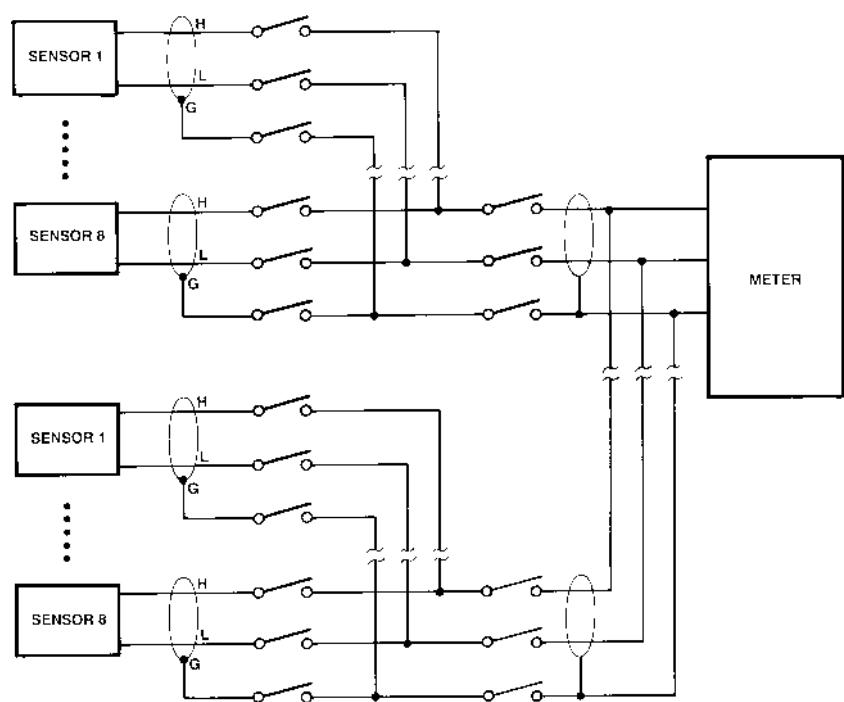
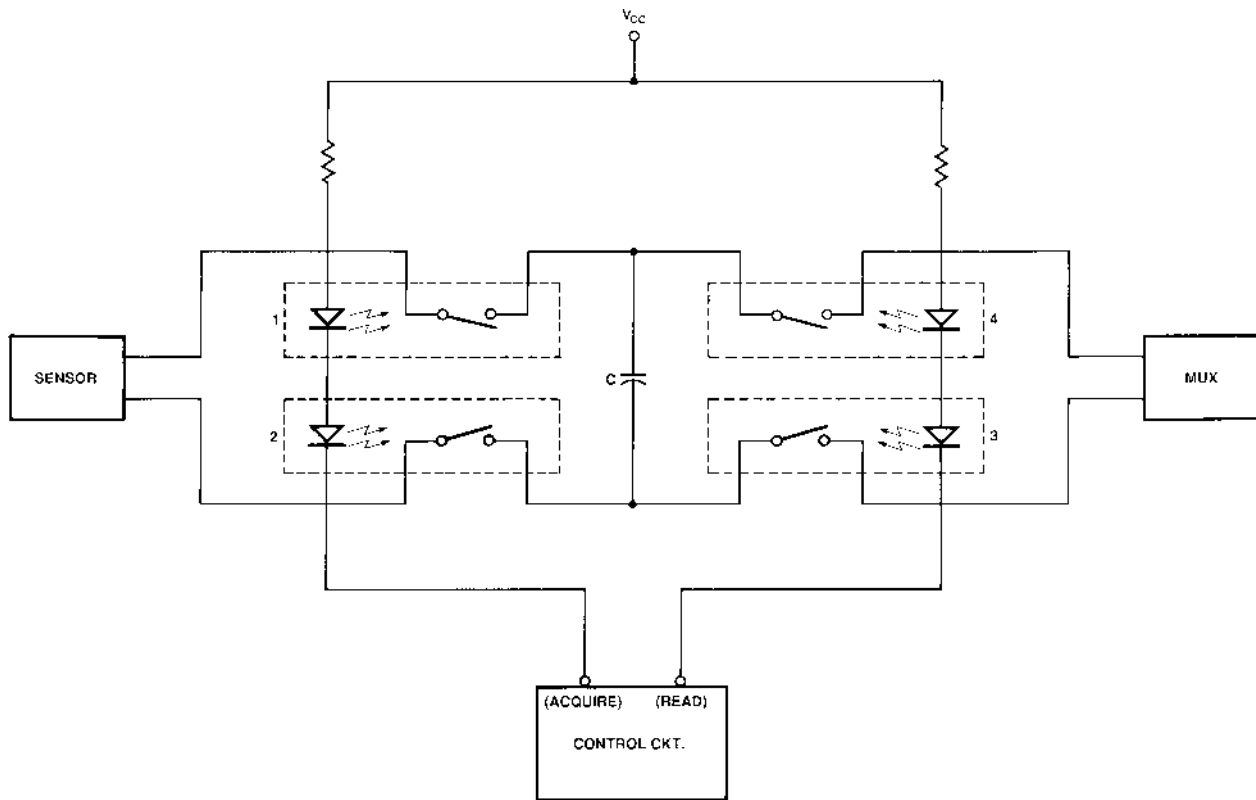

Figure 12. Multiplex System.
Figure 13. Flying Capacitor Multiplexer.
0.6 nA. Figure 12 shows an example of a multiplexing system. In this diagram, SSRs are used to multiplex or scan low-level differential signals. The configuration uses three switches per channel to connect the signal HI, signal LO, and guard to the measurement system. In Figure 13, SSRs are used in a flying capacitor circuit.